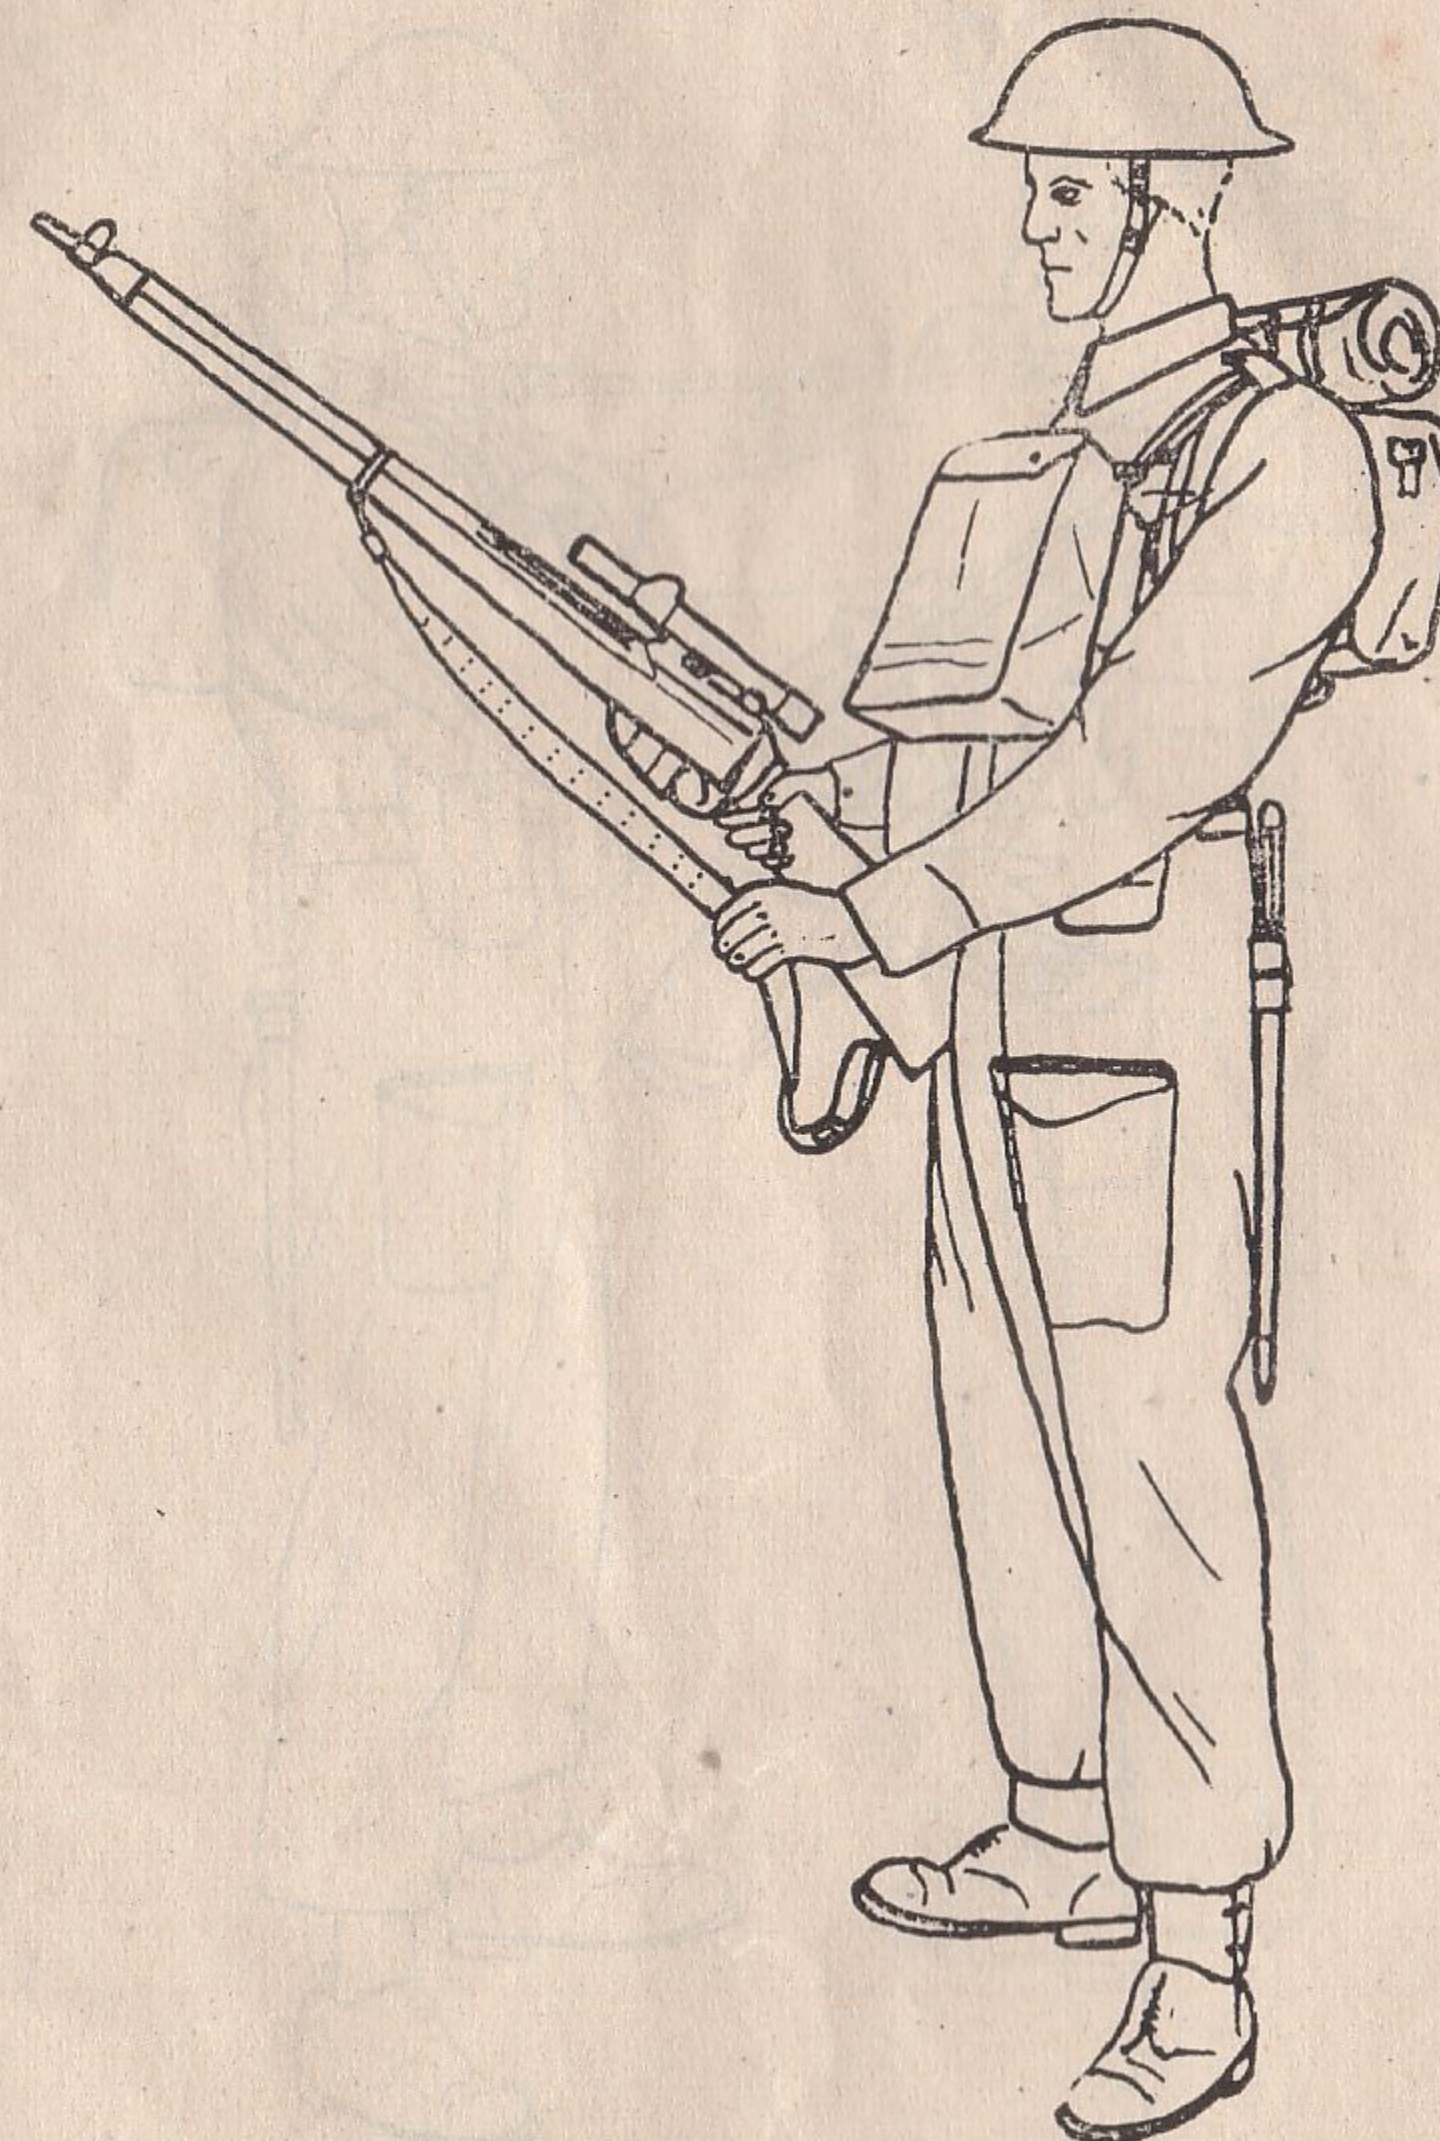

Fig. 18
- i. Loosen the lower loop of the sling so that it hangs free as shown in Fig. 18.